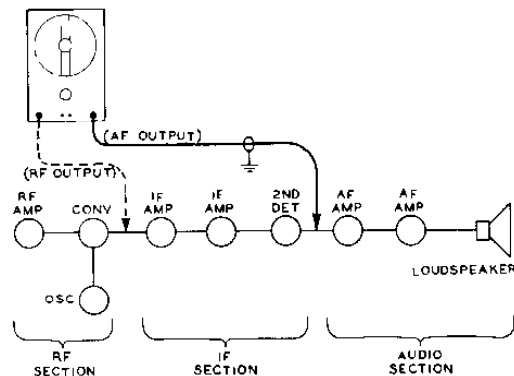
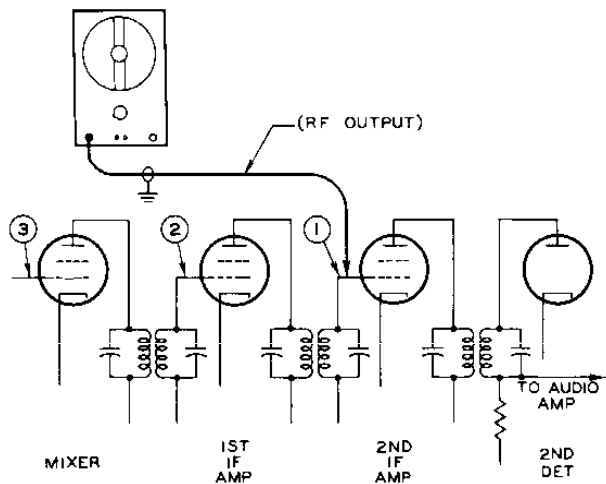

Figure 13. Method for locating a dead section in an am broadcast receiver
Figure 15. Method for locating a dead stage in the IF amplifier of an AM broadcast receiver
2. If the audio section is functioning, the if section should be checked by applying an if signal of very low level with modulation to the input of the if amplifier, as shown in Figure 13. Tune the WR-50B to the if of the receiver, which is 455 Kc in most cases. If a loud 400-cycle tone is heard, it indicates that the if section is functioning. If no signal is heard, or if the sound is weak, a stage-by-stage check of the if amplifier should be made as described under Figure 15.
Figure 15. Locating a dead stage in the if amplifier of an AM broadcast receiver. If the audio section is functioning, the if amplifier should be checked. The receiver volume control should be set to the maximum-volume position and the WR-50B should be tuned to the intermediate frequency used in the receiver.